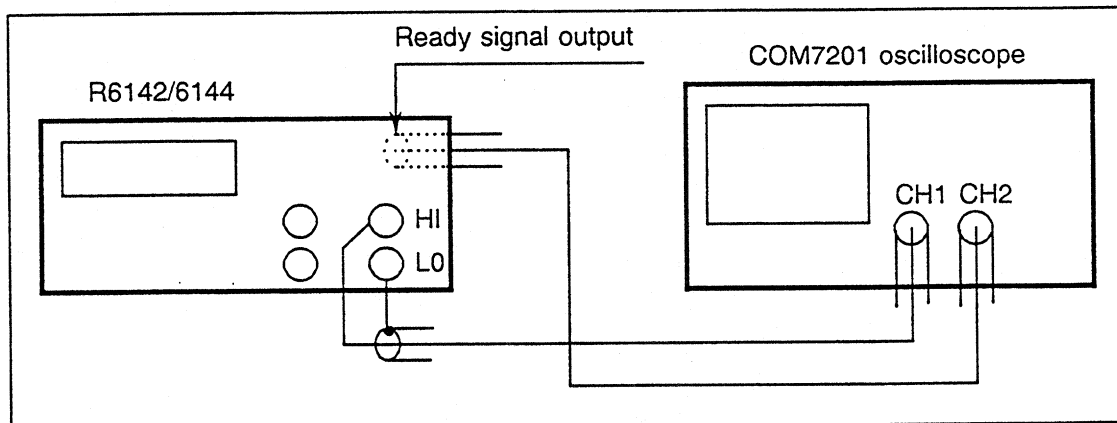

Figure 4-11 Cable Connection for Ready Signal Test
- ① Connect the R6142/6144 to an oscilloscope as shown in Figure 4-11. Use CH1 of the oscilloscope to observe the output waveforms, and use CH2 of it to observe the Ready signal waveforms.